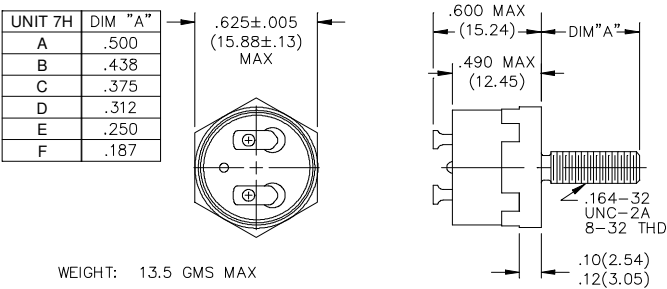

Figure 3:
- 703 = .190-32 Stud Mount (See Figure 3)